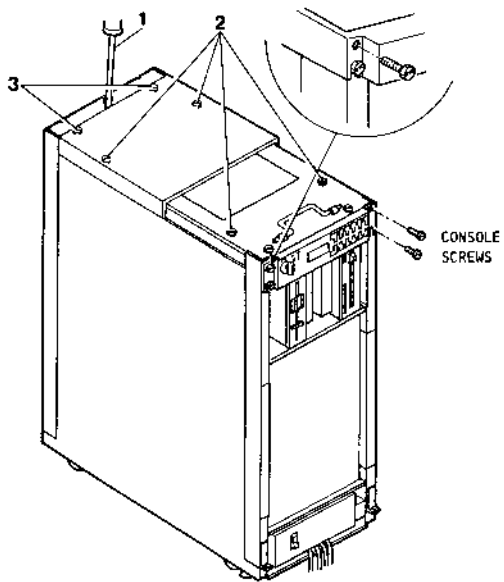

Fig. 2-1 Removing the SBO Cabinet Panels from the Front
To remove the panels of the SB0 cabinet casing (see figure 2-1), the procedure is as follows:
5. Unscrew the two upper screws and slacken the two lower screws securing the console to the frame (see figure 2-1).